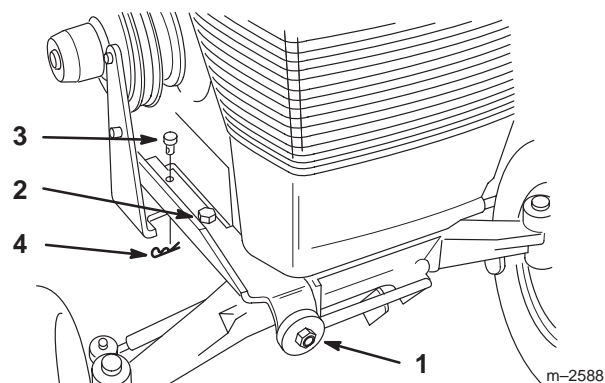

Figure 8
4. Slide anti-sway bracket into guide slot in the front of the belt guard bracket and secure to frame with clevis pin and hairpin cotter (Fig. 8).